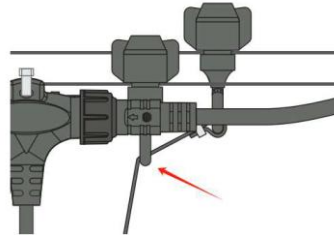

Fig. 10-2: Nylon rope pass through “Fixed” lifting ring
- Pass the other end of the nylon rope through the “Fixed” lifting ring (as Fig. 10-2).